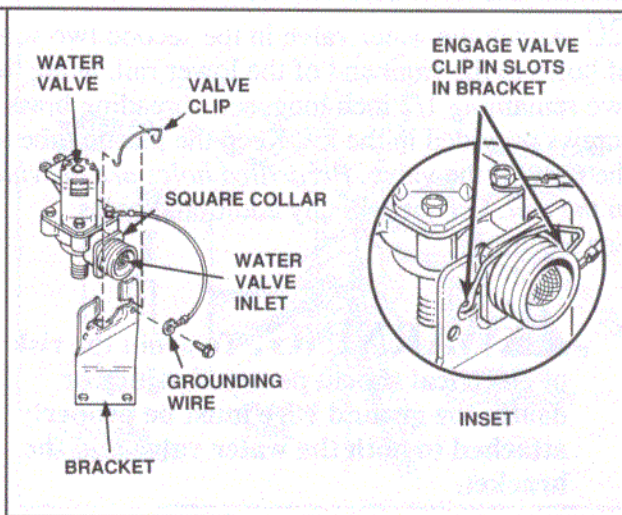

Figure 14
15. Assemble the bracket to the water valve and lock the bracket into place with the valve clip. See the inset. Note that the bracket fits behind the square collar on the water valve inlet and that the valve clip fits into the groove behind the threads on the water valve inlet. Attach the ground wire to one hole in the bracket using one brass colored, 1/2 inch long self-threading screw from the kit. See Figure 14.